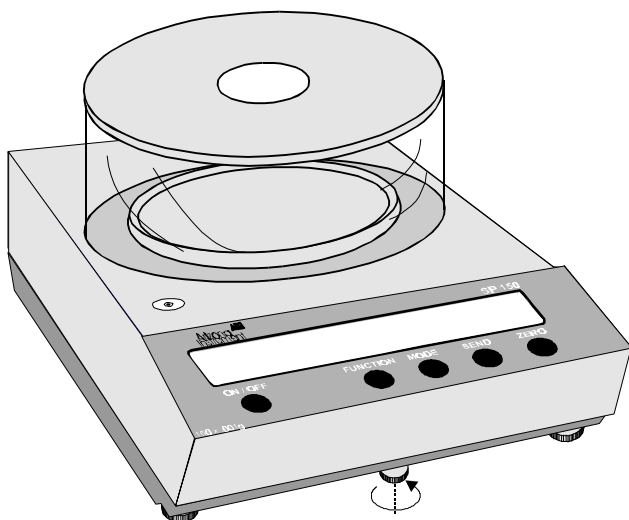

Figure 34 Unlocking Clamping Screw
All AZI balances are equipped with a special clamping screw that locks the balance suspension during shipping. This screw must be loosened before the balance can be operated (see Figure 34).
- Turn the knob, approximately one (1) turn counter clockwise, as shown in **Figure 34**, until it stops .